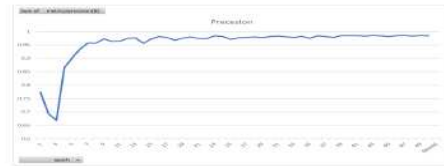

Figure 18 – precession for YOLOv8 Object detection algorithm vs epochs
Another important metric is Precision, which indicates how accurately the model predicts outcomes. We can see in below figure18 the precision trend vs epochs, Precision refers to the ratio of identified objects to the total number of predicted positives, including true positives and false positives. When precision is high it means that most of the detected objects are relevant, Precision = true positives (TP) out of all positive predictions. (TP+FP).